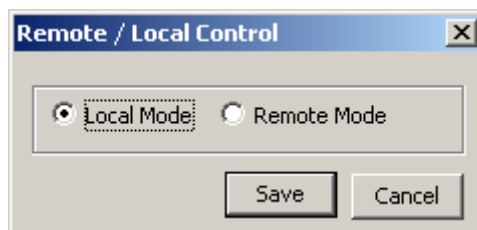

Figure 2-6 Remote/Local Mode Dialog Screen
- From the ISScom Main Screen menu bar select **Remote/Local**. ISScom will display the Remote/Local Mode dialog screen (Figure 2-6).